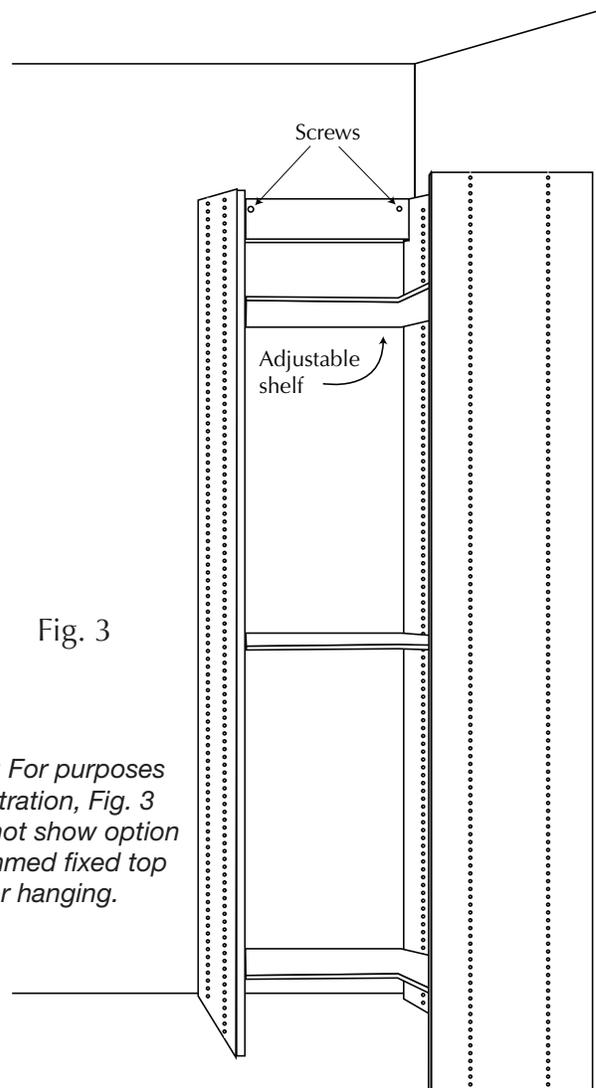

Fig. 3
2. Add the third partition panel to the open end (Fig. 3.), and fasten it to the shelves by tightening all the cam locks in place.
NOTE: For purposes of illustration, Fig. 3 does not show option of cammed fixed top shelf or hanging.